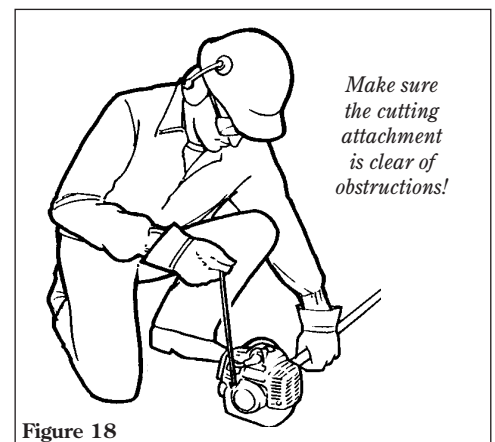

Figure 18
5. While holding the outer tube firmly with your left hand, use your right hand to pull the recoil starter handle until resistance is felt, then pull quickly to start the engine. See Figure 18.